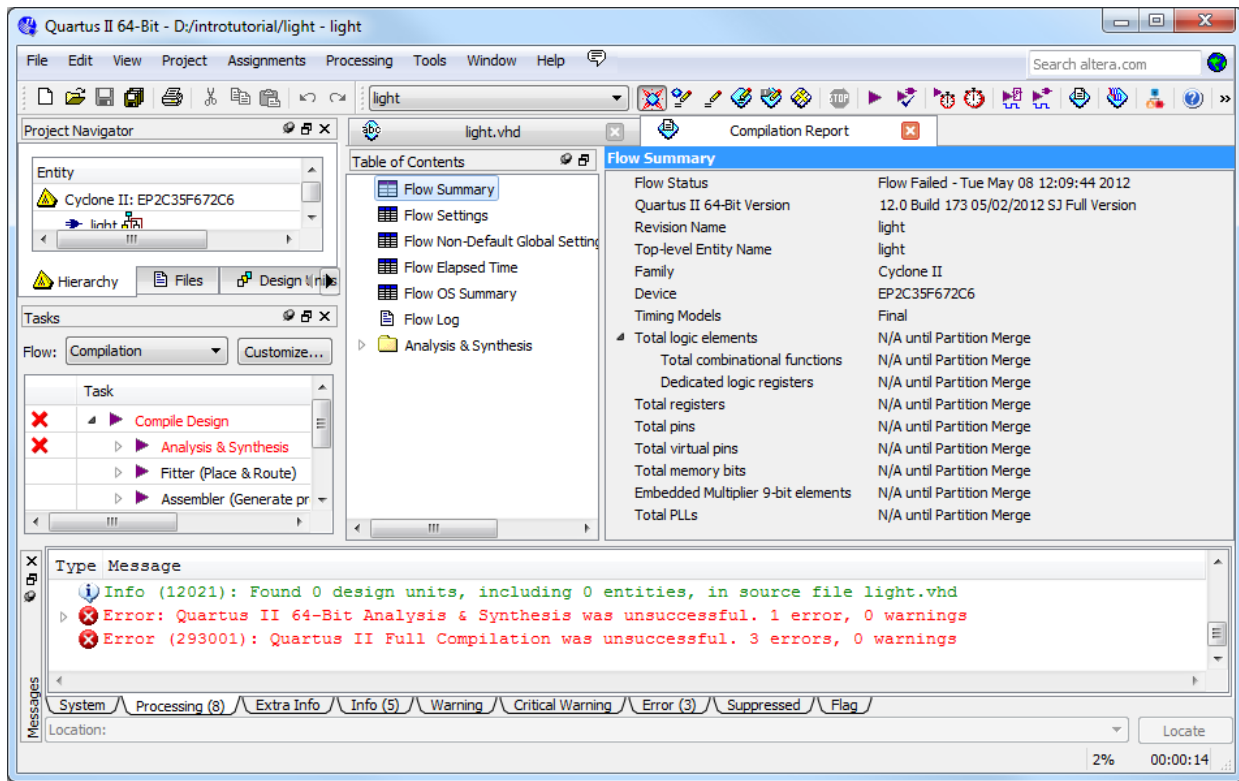
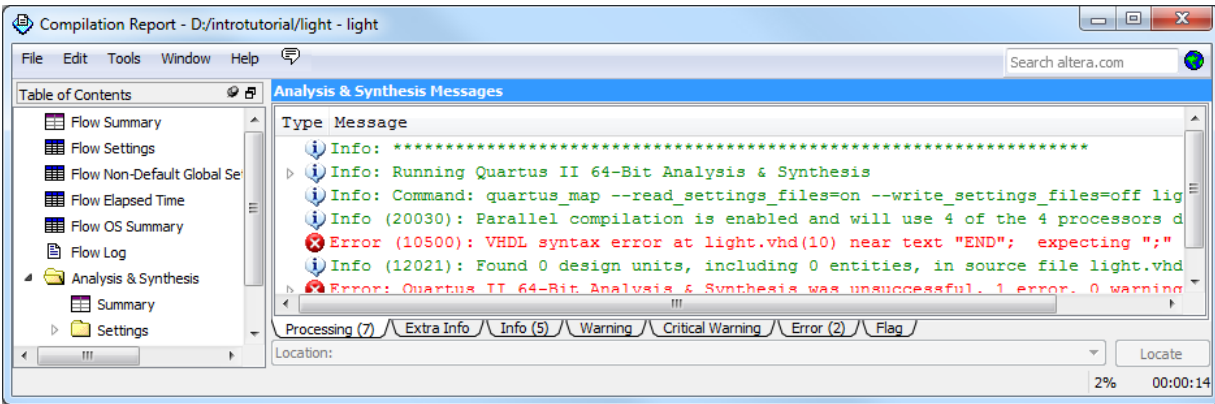
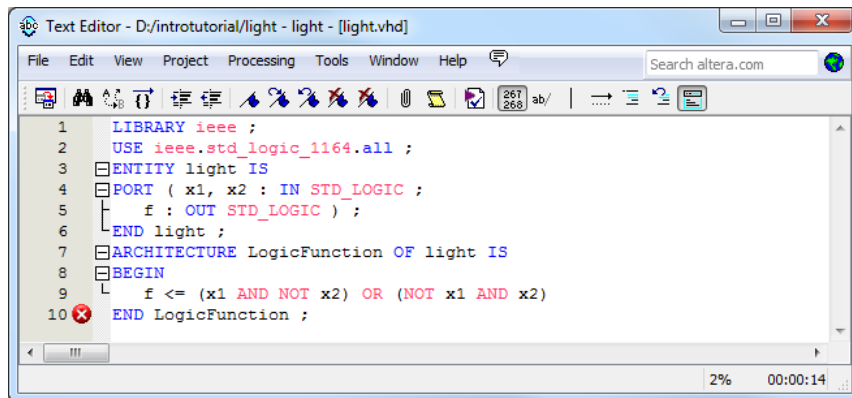

Figure 19. Compilation report for the failed design.
Figure 20. Error messages.
Figure 21. Identifying the location of the error.
*f*, illustrating a typographical error that is easily made. Compile the erroneous design file by clicking on the  icon. A pop-up box will ask if the changes made to the *light.vhd* file should be saved; click **Yes**. After trying to compile the circuit, Quartus II software will display a pop-up box indicating that the compilation was not successful. Acknowledge it by clicking **OK**. The compilation report summary, given in Figure 19, now confirms the failed result. In the Table of Contents panel, expand the **Analysis & Synthesis** part of the report and then select **Messages** to have the messages displayed as shown in Figure 20. The Compilation Report can be displayed as a separate window as in Figure 20 by right-clicking its tab and selecting **Detach Window**, and can be reattached by clicking **Window > Attach Window**. Double-click on the first error message. Quartus II software responds by opening the *light.vhd* file and highlighting the statement which is affected by the error, as shown in Figure 21. Correct the error and recompile the design.